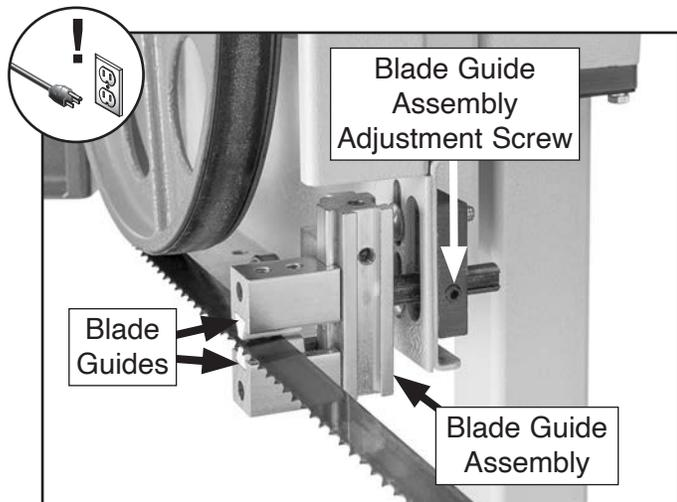

Figure 72. Location of blade guide assembly and adjustment screw.
2. Loosen blade guide assembly adjustment screw (see **Figure 72**) so you can slide blade guide assembly forward and backward.